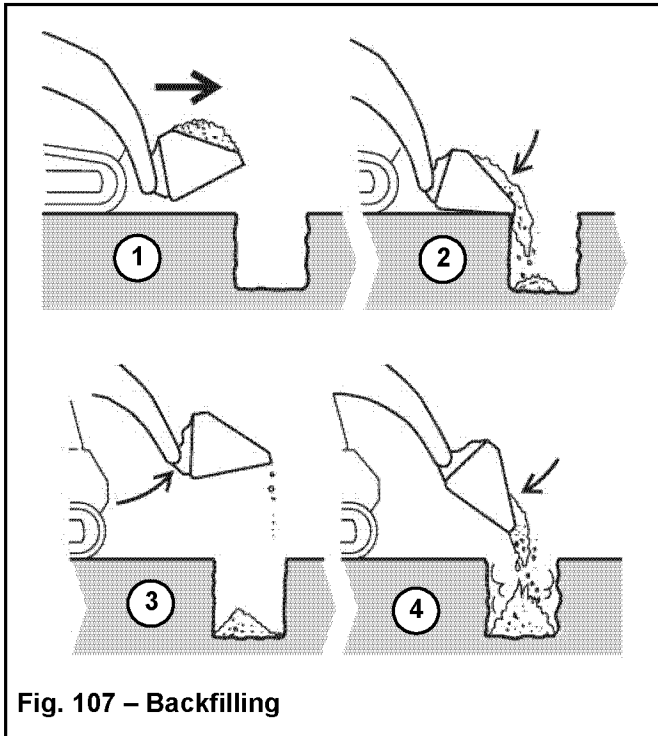

Fig. 107 – Backfilling
1. Lower the bucket a few inches from the ground (Fig. 107). Slowly drive up to the hole until the front edge of the bucket is over the near edge of the hole.